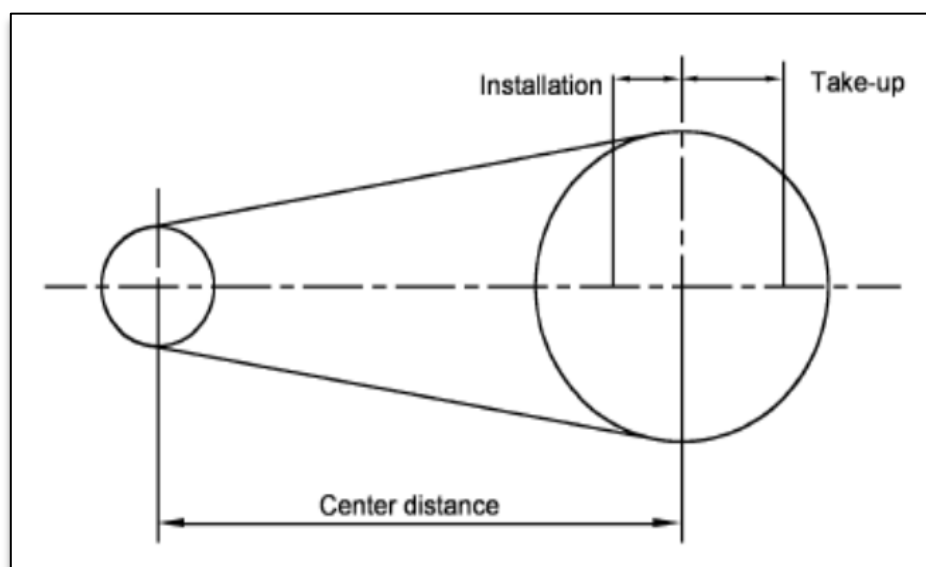

Figure 15
- The positioning of the belt must be correct, so it lies in the corresponding grooves of the two pulleys (Figure 15);
During installation the belt should never be forced over the pulleys edges. To correctly install the belt it is necessary to reduce the center distance, then it is possible to fit the belt without any tension. The required allowance to move on the axis is determined in Table 5 and Figure 15